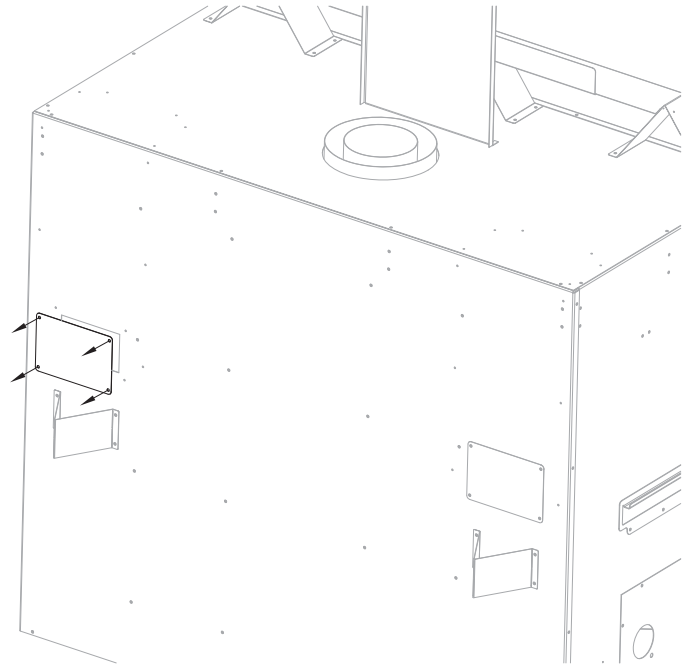

Figure 3.8, Cover Plate Removal
- **Heat Transfer Kit(s)** allows you to transfer heat to a specific area inside your home (interior) or directly outside (exterior). This appliance can have (2) heat transfer kits installed at the same time. It can be up to two of the same heat transfer kits, or a combination of interior and exterior kits. See the HTK-EXT and/or HTK-INT manuals for further information.
Figure 3.8 shows removal of the Heat Transfer Kit cover plates. There are (2) square cover plates located on the back of the outer shell of the appliance. This appliance can have (2) Heat Transfer Kits installed at the same time. It can be up to two of the same heat transfer kit or a combination of interior and exterior kits.